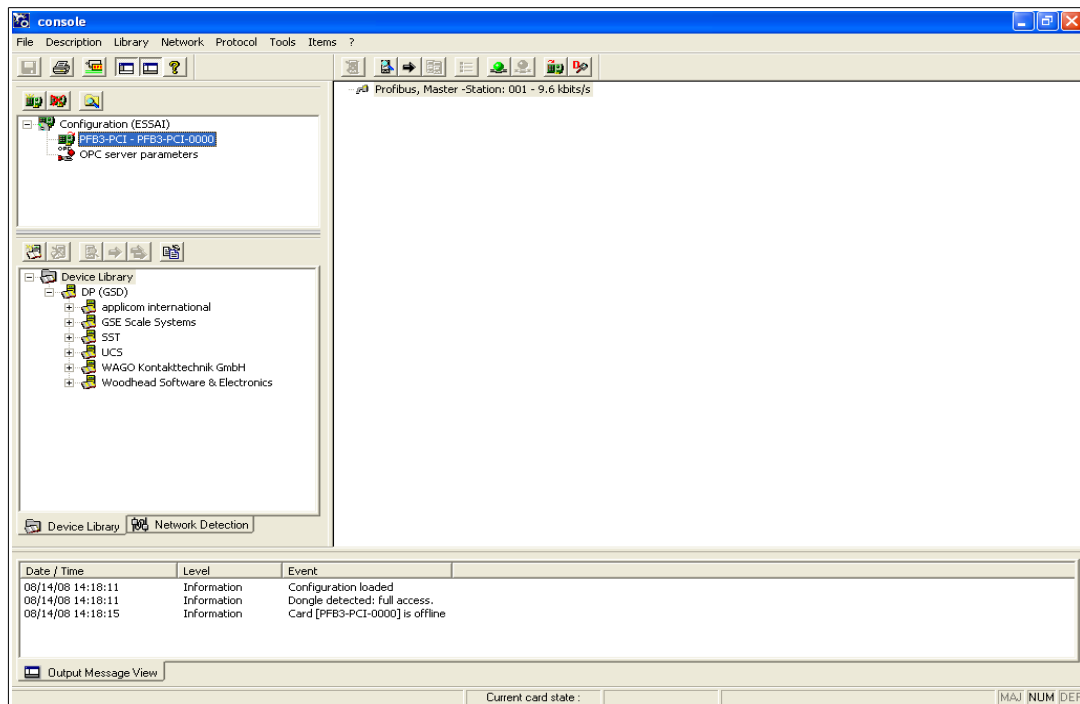
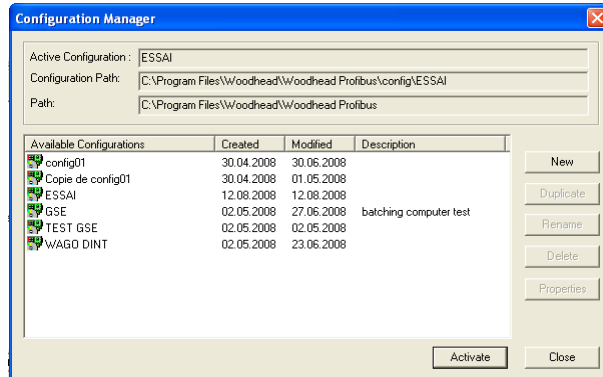

Figure 1
Figure 2
- Open the Windows I / O configuration window by tapping Start → Programs → Profibus Woodhead → Console. Figure 1 shows the window that opens.
- Create a new project by selecting the following : *File-Configuration Manager*. A pop-up window of *Figure 2* will appear with the names of the existing projects. Select "New" and fill in the name and the description, where applicable, at the designated areas for that purpose. Validate by clicking OK. The project is created and all that is left to do select the newly-created project and click "Activate". The *Figure 1* page opens with the name of the project in paranthesis after "configuration".